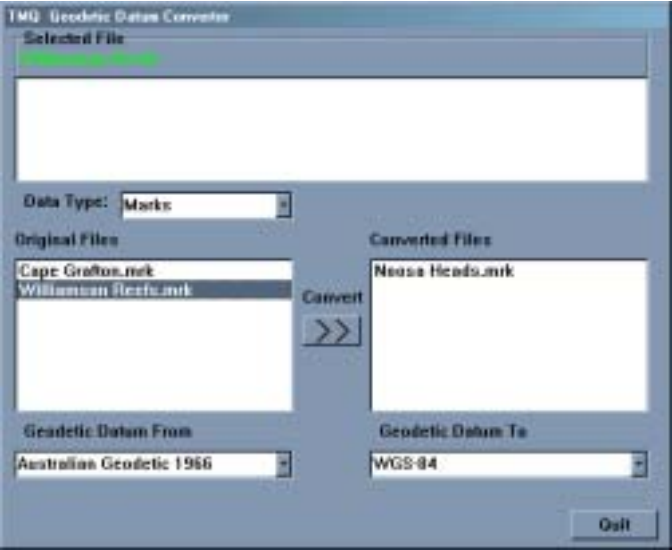

Figure 4.8
4. Click 'Convert'. The converted file will now appear in the 'Converted Files' section. (See Figure 4.8)